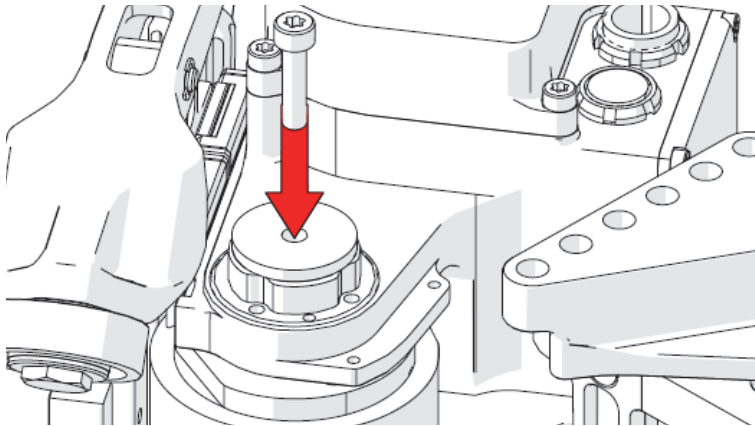

Figure 2-19 Inserting the wheel puller screw
21. Thread the wheel puller screw through the washer and bearing housing into the axle (see Figure 2-19 on page 95).